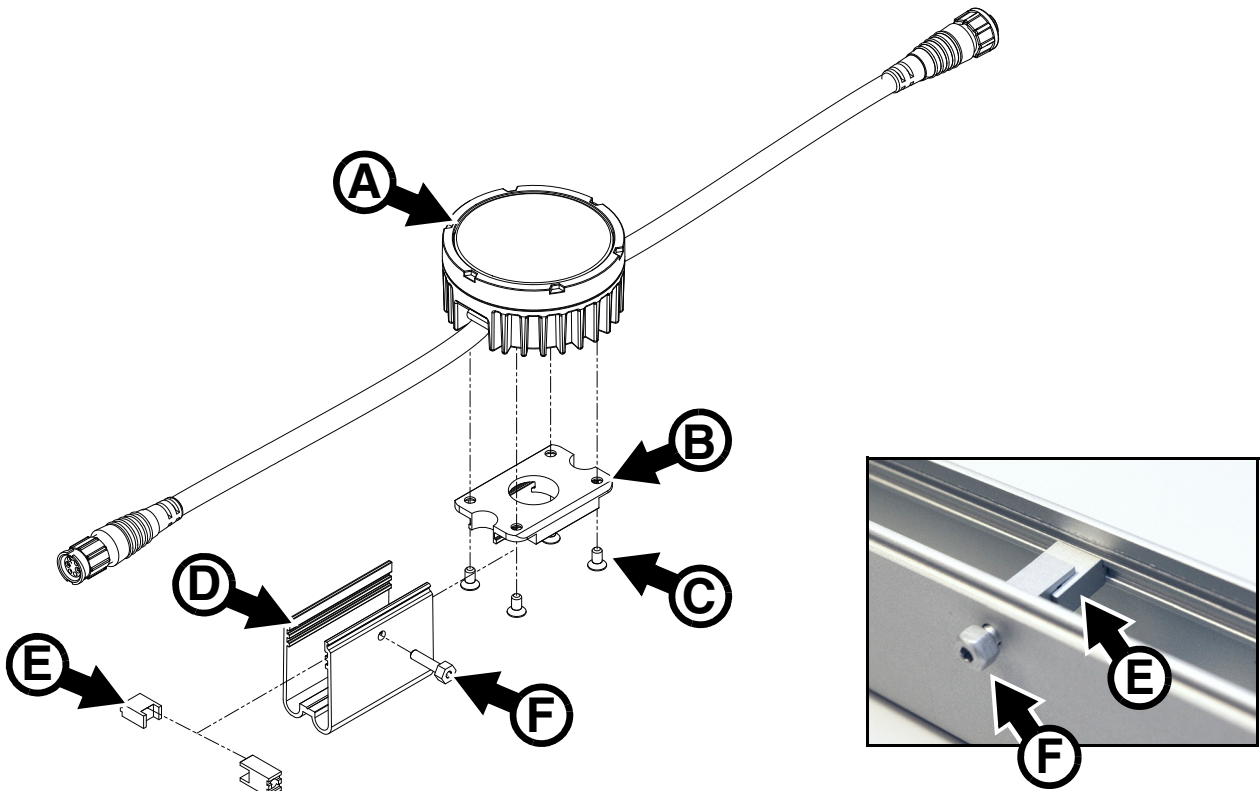

Figure 6: Installation in a 57 mm mounting profile
See Figure 6. Installing in a mounting profiles involves the following items:
1. See Figure 6. Fasten each Dot **A** to a mounting profile bracket **B** using four screws **C**. Apply a small quantity of Loctite 243 to the screw threads, and use a torque driver to tighten to a torque of 2.5 Nm.
5. If you are going to install the Dot now, apply a small quantity of Loctite 243 to the threads of the locking bolt **F** (if you are going to install the Dot in the profile later, apply the Loctite when you install the Dot). With the locking blocks **E** assembled as shown in Figure 6 and located in the grooves in the mounting profile, tighten the bolt **F** through the mounting profile and into the lock finger-tight only.